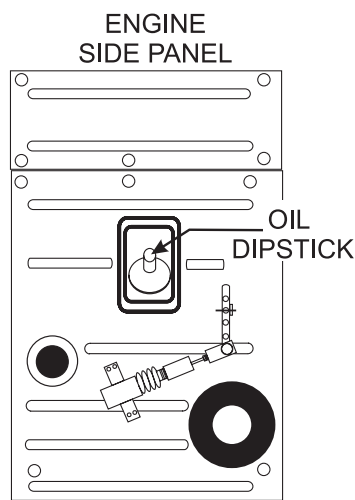

Figure 12. Engine Oil Dipstick
7. Remove the engine oil dipstick from its holder (Figure 12).